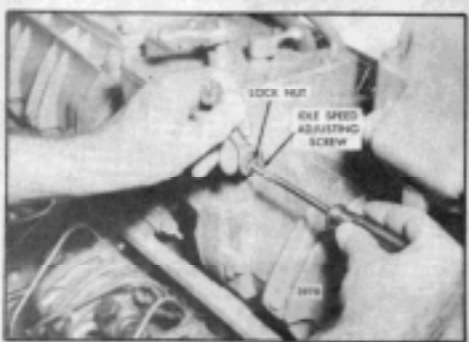

Fig. 14. Adjusting Engine Idle Speed
3. Start the engine and loosen the idle speed adjusting screw locknut. Then adjust the idle screw to obtain the desired idle speed (Fig. 14). Hold the screw and tighten the locknut to hold the adjustment. The recommended idle speed is 400-450 rpm. but may vary with special engine applications.
1. With the engine running, at normal operating temperature and with the buffer screw backed out to avoid contact with the differential lever, turn the idle speed adjusting screw until the engine is operating approximately 15 rpm below the recommended idle speed (Fig. 14). The recommended idle speed is 400-450 rpm, but may vary with certain engine applications